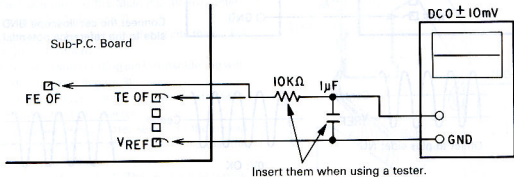

Figure 8
- (1) Connect the oscilloscope across the test terminals FE and VREF. (Figure 8)
- (2) Turn the power switch S608 on, push the PLAY switch, and adjust FE OF VR R116 (100k ohm) by rotating it so that $0 \pm 10\text{mV}$ is obtained.
- (1) Connect the oscilloscope across the test terminals TE and VREF. (Figure 8)
- (2) Turn the power switch S608 on, push the PLAY switch, and adjust TE OF VR R119 (100k ohms) by rotating it so that $0 \pm 10\text{mV}$ is obtained.